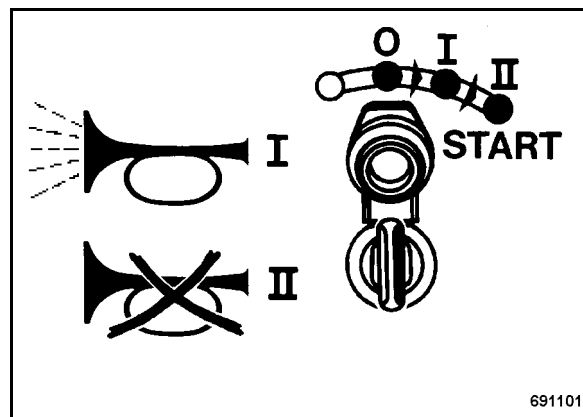

Fig. 20
- Turn the ignition key to position "I" (Fig. 20), the warning buzzer does not sound.